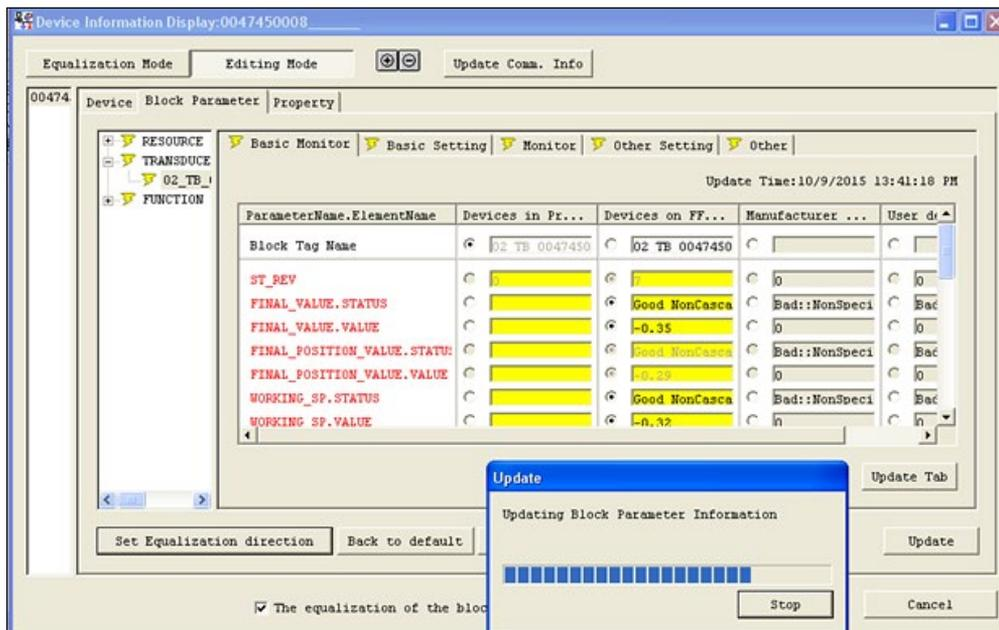

Figure 88 - Device Information Display Window
- Open the *Device Information* display by double-clicking on the device in the *Device Panel* window (Figure88).